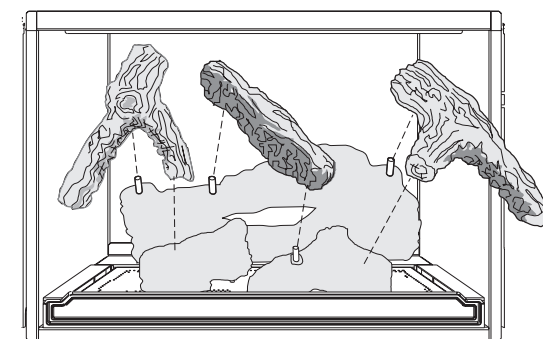

Figure 26. Locate the upper logs on the appropriate pegs.
3. Set the three upper logs on the appropriate pegs as shown in fig. 26.